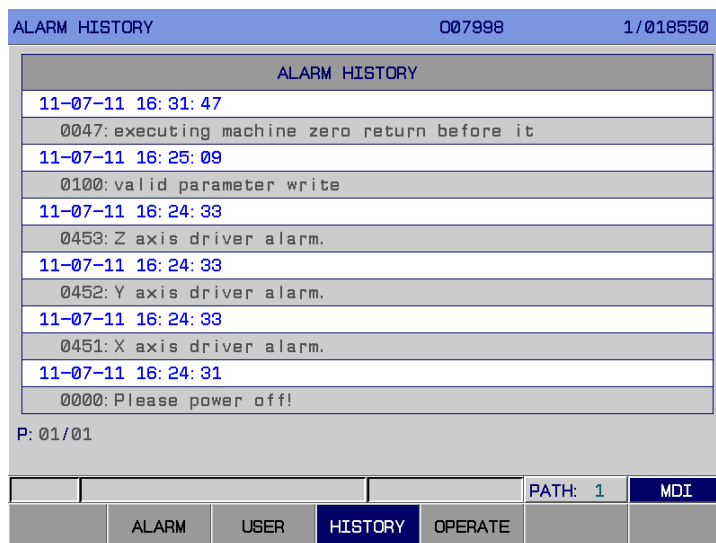

Fig. 3-7-3
3. History interface Enter the history alarm information interface by【HISTORY】softkey in <ALARM> interface, refer to the Fig. 3-7-3: